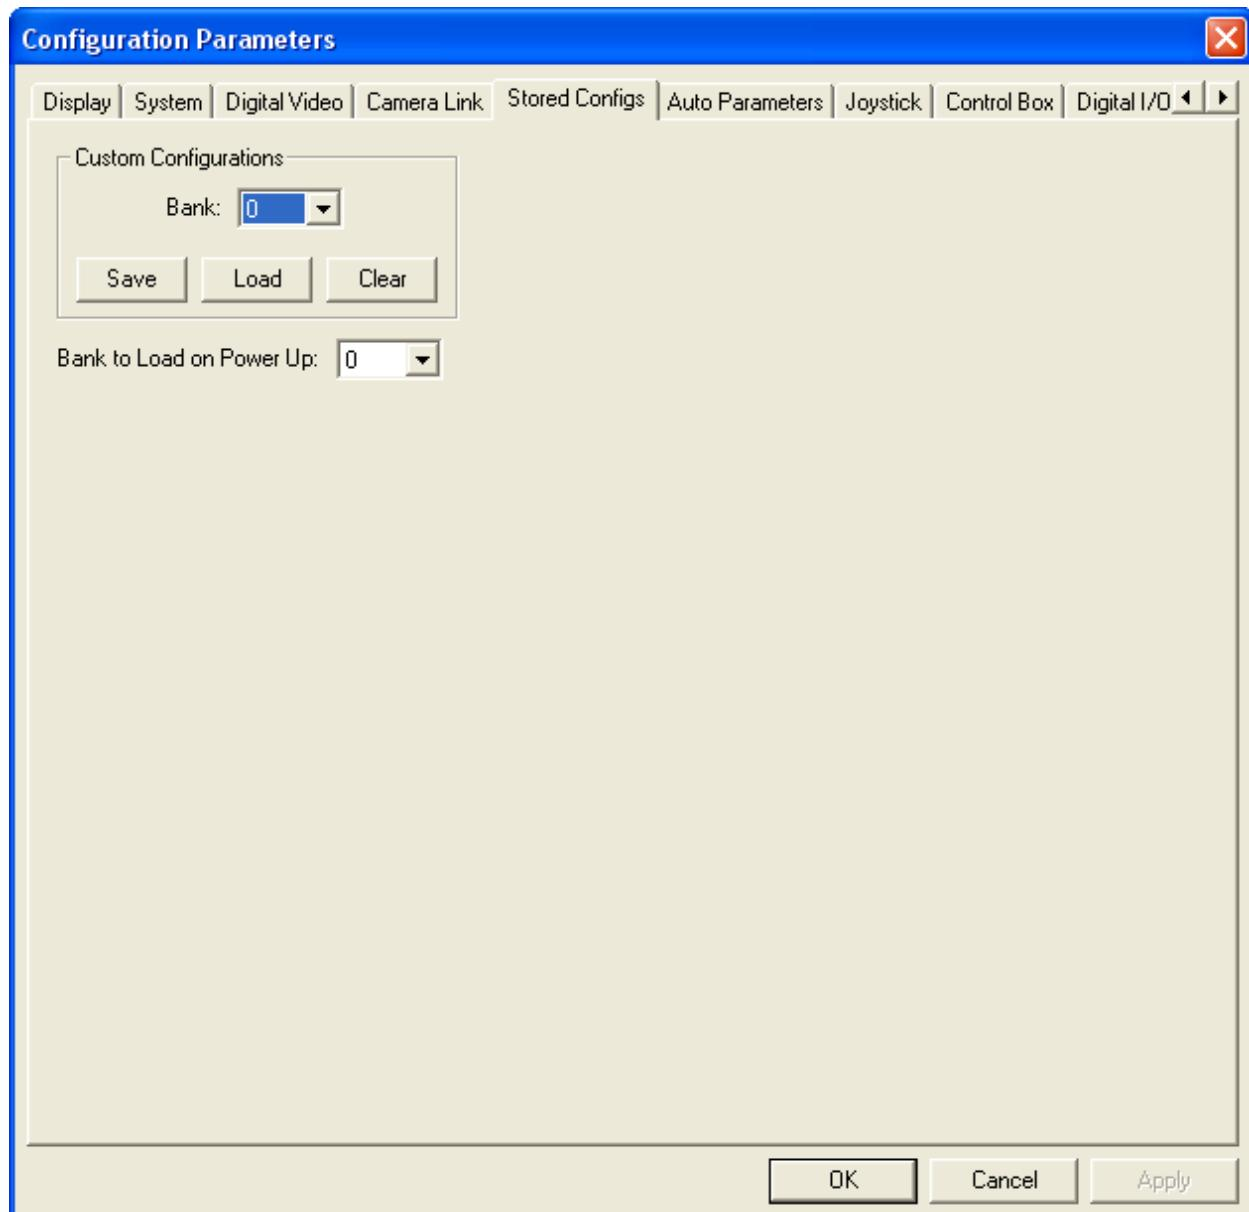

Figure C3.22. Stored Configurations Screen
The **Stored Configs** tab (Figure C3.22) provides facilities for the user to **Save**, **Load**, and **Clear** to default any of ten (10) configurations stored in FLASH memory. The tracker also allows the user to define which configuration in FLASH to load during the next hardware/software reset or power-up.